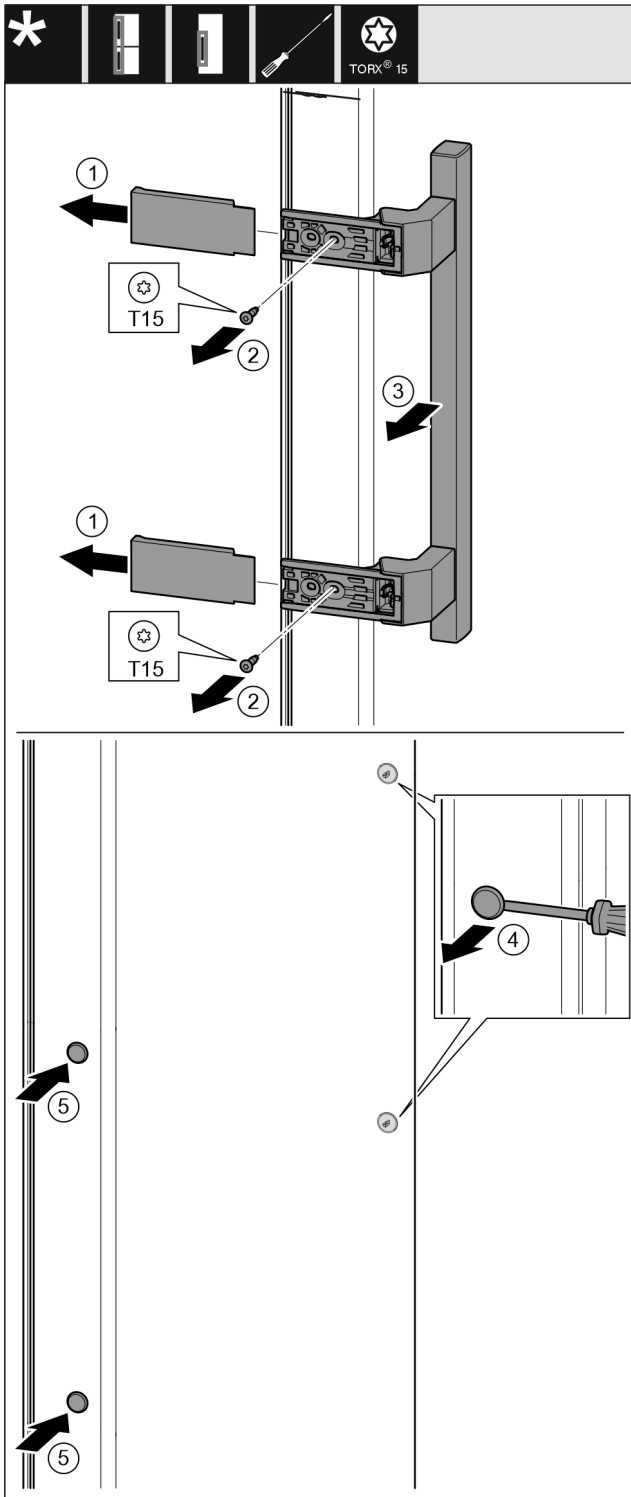

Fig. 10
- ▶ Pull off the cover. Fig. 10 (1)
- ▶ Unscrew the screws with a Torx 15 screwdriver. Fig. 10 (2)
- ▶ Take off the handle. Fig. 10 (3)
- ▶ Carefully lift the side plug with a slotted screwdriver and pull it out. Fig. 10 (4)
- ▶ Replace the plug on the other side. Fig. 10 (5)